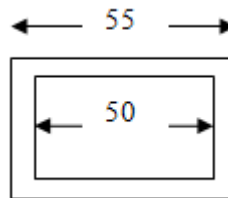

Fig.3
- 12 a) Discuss the Maxwell reciprocal theorem. (2)
- b) A shaft of square section as shown in Fig. 3 below is subjected to a twisting moment such that the maximum shear stress is limited to 250GN/mm^2 . Obtain the torque and angular twist, if shaft is 1.6m long (Take $G = 70000\text{N/mm}^2$). (8)